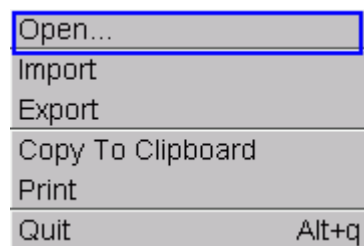

Figure 3.36: Open menu
2. select menu **File**→**Open** as shown figure 3.36 or click the OPEN icon